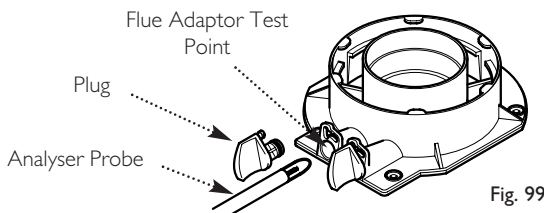

Fig. 99
7. Remove the plug from the flue sampling test point. Insert the analyser probe and allow sufficient time for the reading to settle (Fig. 99).